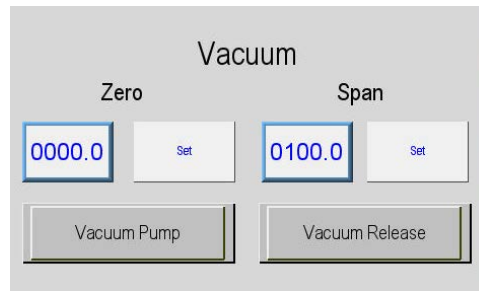

Figure D.8 - Zero Field
pressure gauge, enter the value in kilopascals corrected for altitude obtained earlier into the field labeled “Zero”, and press the “Set” button next to the box to save this value to the software. If using an absolute pressure gauge, enter the value displayed by the gage without the vacuum pump running, converted to kPa into the field labeled “Zero”, and press the “Set” button beside this value to save this value to the software (Figure D.8).
8. Once the calibrated pressure gauge reaches a stable vacuum reading, enter the vacuum pressure achieved in kPa as indicated by the calibrated pressure gauge into the “Span” field (see Figure D.8) and press the “Set” button to save this reading to the VDO software. If using a relative pressure gauge, this value will be the value obtained by subtracting the vacuum reading displayed by the pressure gauge from the value entered in step 5 above. If using an absolute pressure gauge, this will be the value displayed by the absolute pressure gauge.